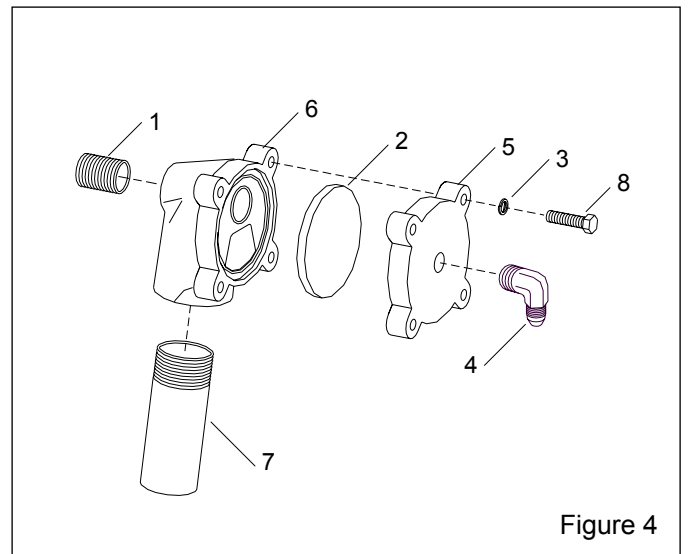

Figure 4
#### 5.2 Diaphragm Outlet Valve, Ref. Figure 4
**7.4 1/2" Diaphragm Outlet Valve Figure 4**